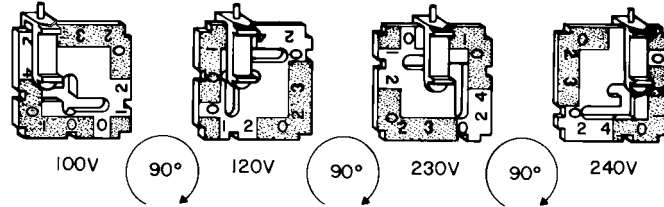

Figure 3-8. Selecting the Line Voltage
- (d) Orient the voltage selector card so that the indicator pin is pointing upwards (see Figure 3-8). Holding the pin in this orientation, rotate the card until the re-
quired voltage setting, determined from Table 3-10, is showing at the bottom of the card, as shown in Figure 3-8.